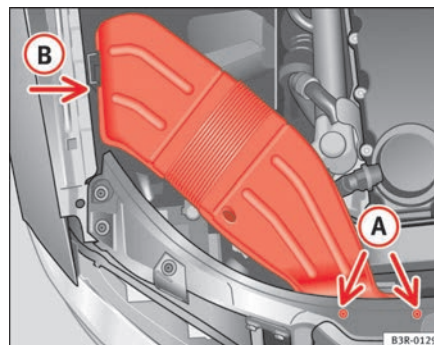

Fig. 187 Air duct on right side of vehicle
- Unscrew bolts **(A)** ⇒ fig. 187.